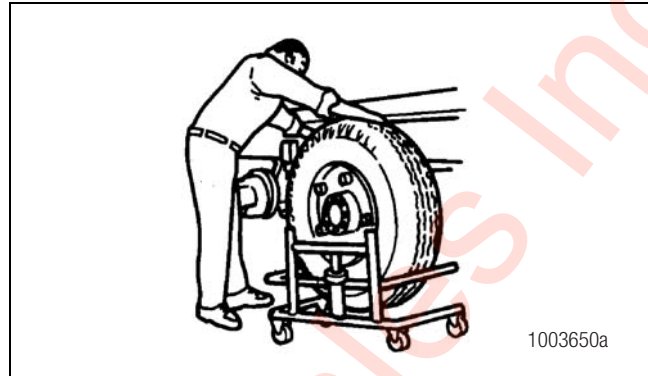

Figure 5.11
3. Use a wheel dolly and pull the tire and wheel assembly STRAIGHT off the hub. A wheel dolly will help protect the thru-tee when you remove and replace the tire and wheel assembly. Figure 5.11.